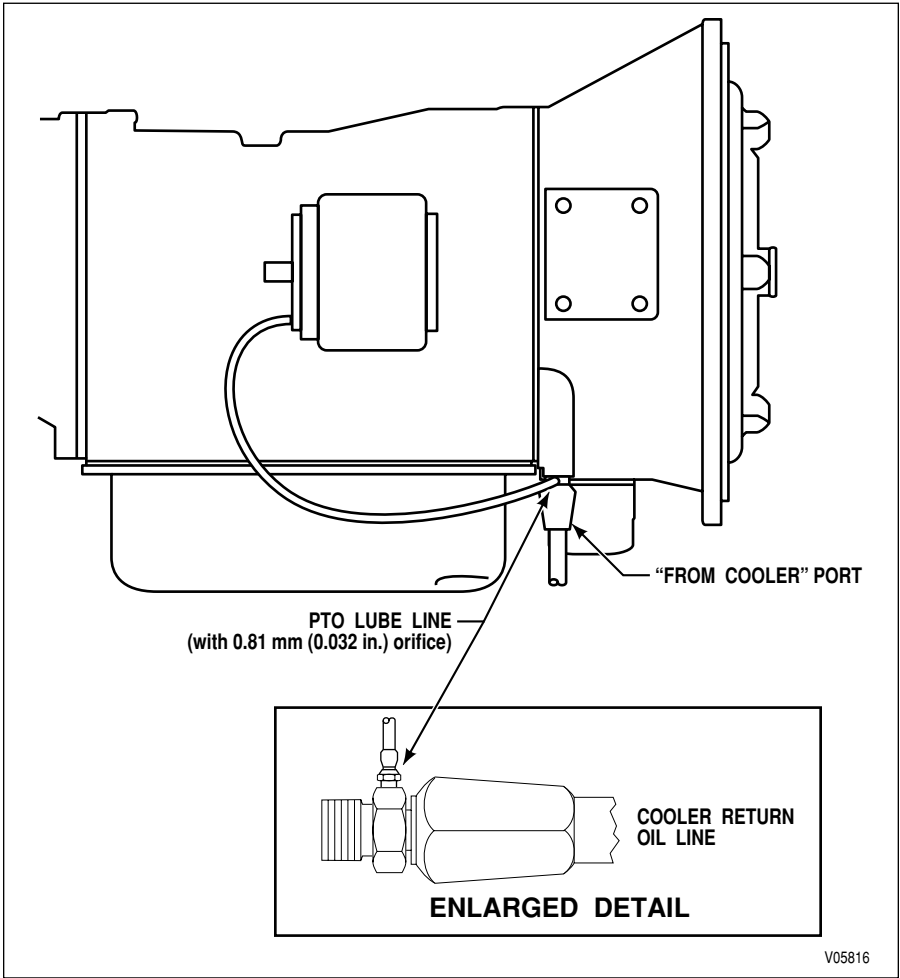

Figure 3–2. PTO Lube Plumbing Schematic
e. Connect PTO Clutch Feed, if required. Some PTOs are clutch-applied. Use transmission main pressure from the main pressure tap for applying the PTO clutch. See Figure 3–1 for the location of the main pressure tap and Figure 3–3 for a typical plumbing schematic when this feature is needed. This connection can be made later if the clutch apply line will interfere with transmission installation.